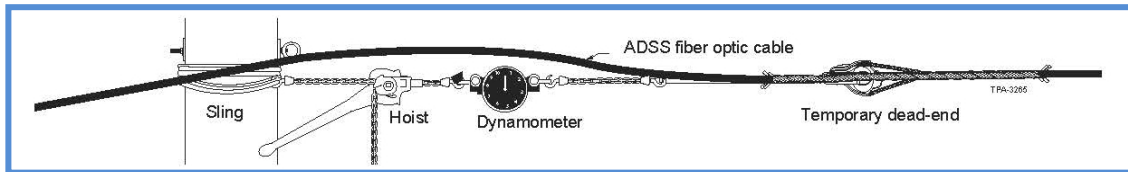

Figure 10: Tensioning ADSS cable with in-line Dynamometer. (Source: Synergy Cable Co)
5. Set up the temporary dead-end, a chain hoist, an in-line dynamometer. Typically, the chain hoist is strapped to the dead-end pole as per Figure 10 on page 21.